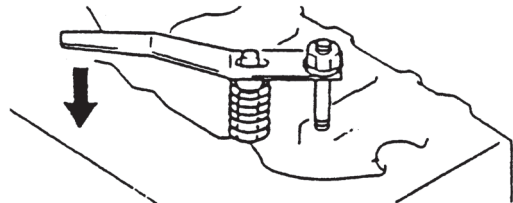

Figure 6-45
2. Using the valve spring compressor tool, compress one of the valve springs **(Figure 6-45)**.